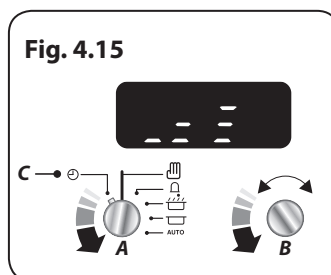

Fig. 4.15
Turn the **Timer (A)** knob to the **Clock (C)** setting. Turn the **Adjusting (B)** knob counter clockwise until the tone bars are displayed (**Fig. 4.15**).